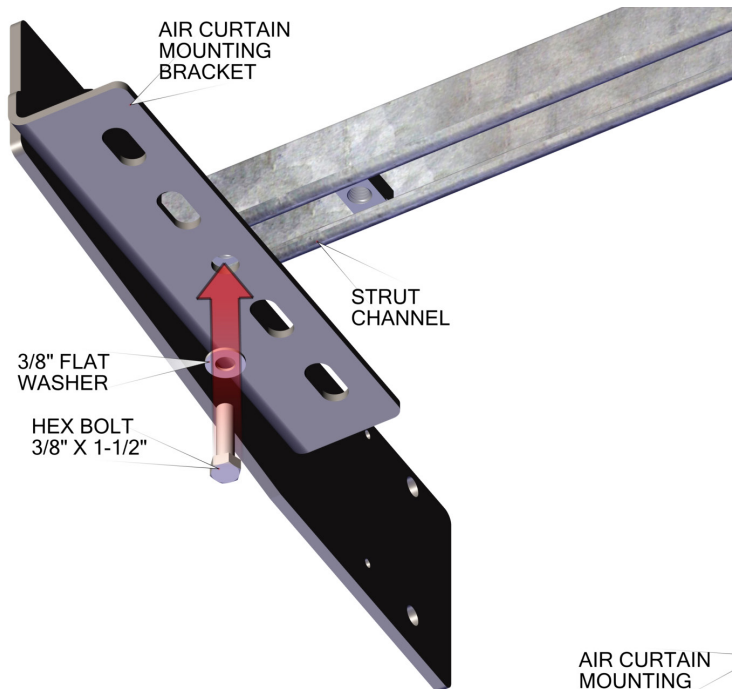

Figure 22: CLC08 and CHD10 Single Units
- Depending on the type of air curtain you have, assemble the air curtain mounting brackets to the outer strut channel nut, previously installed, see Figures 22 and 25.